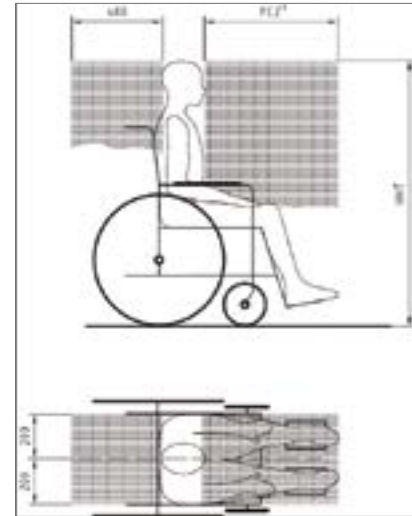

Figure 1
- To minimise the potential for head injuries in an impact, allow a clear space of at least 400 mm behind and 650 mm, (FCZ, front clear zone), in front of the head of the wheelchair user, (Fig 1). The shoulder belt anchorage must be roof or side-wall anchored at a height level such that the belt webbing passes over the midpoint of the occupant shoulder and at a height that is at or just above the level of the occupants shoulders so as not to impose downward loads on the spine.